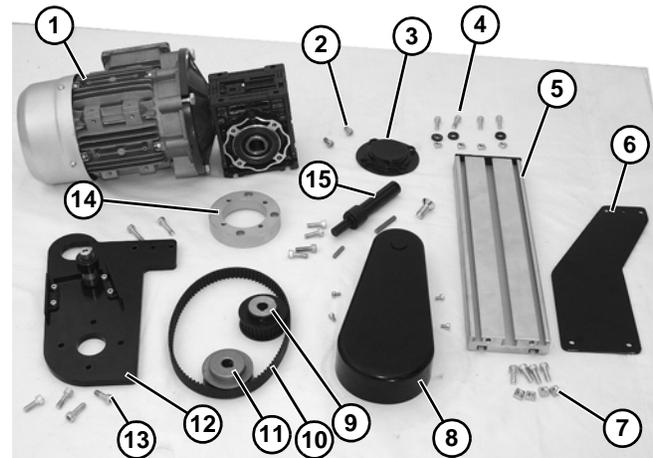

Figure 4
1. Typical components (Figure 4).
<p>2100, 2200, MPB and 6200 2" & 3" (51mm & 76mm) and 4100 1" through 6" (25mm – 152mm) conveyors do not include (Figure 4, item R through W).</p>